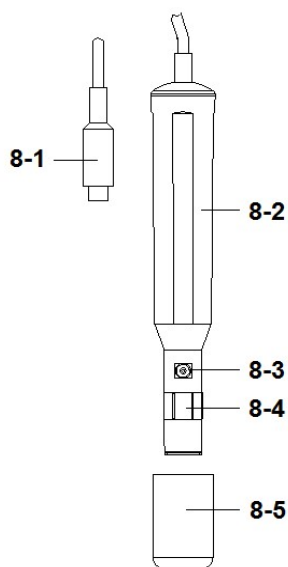

Fig. 5
- 1) Prepare the Oxygen Probe (optional, DOPB-11), install the " Probe Plug " (8-1, Fig. 5) into the " DO Socket " (3-17, Fig. 1).
- 1) Install the " Probe Plug " (8-1, Fig. 5) into the " DO Socket "
- 5) **When not use the probe, should insert the " Probe protection cover " (8-5, Fig. 5)**